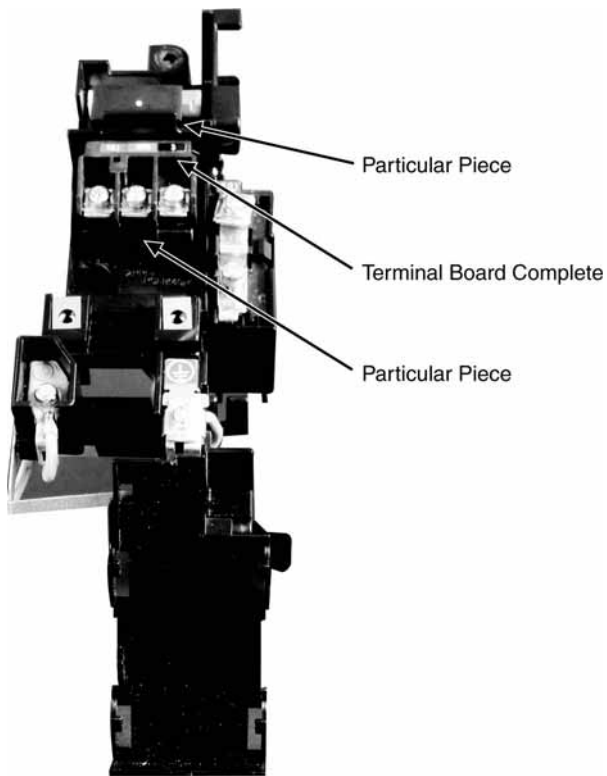

Fig. 16
3. Remove two particular pieces, the Terminal Board Complete. (Fig.16)